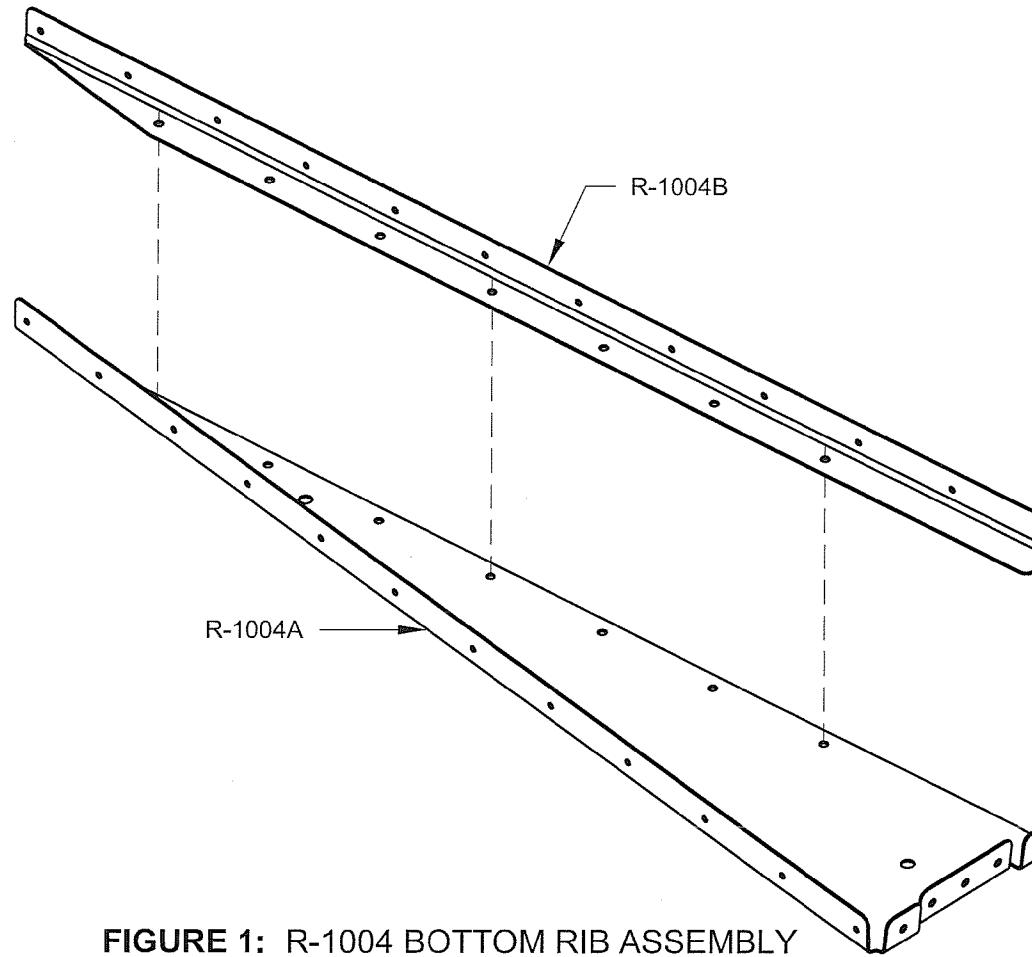

**FIGURE 1: STIFFENER SEPARATION**
Step 1: Remove the shaded areas from the seven R-1015 Stiffeners (shown unbent) according to Figure 1. Each stiffener produces a left and right part when trimmed.